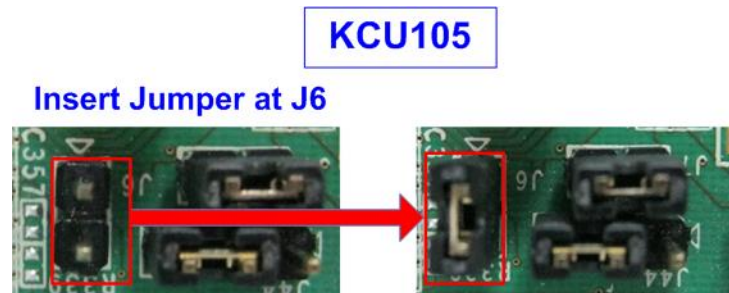

Figure 2-2 Insert jumper to enable SFP+ on KCU105
- b) Board setting on KCU105 board is shown in Figure 2-2. Insert jumper to J6 to enable Tx SFP+.